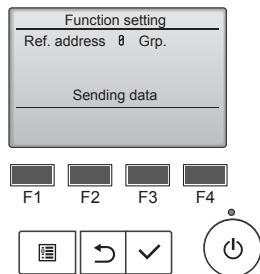

Fig. 7-16
⑥ (Fig. 7-16)
① Going to the function select mode